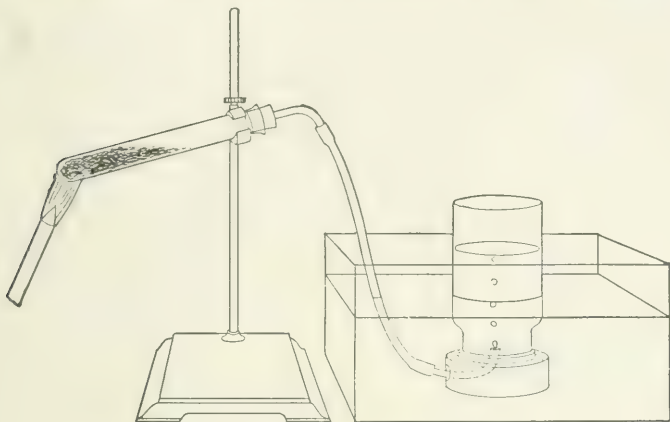

Fig. 20. Decomposing potassium chlorate.
**I. Preparation.** Mix on paper about 10 g. of potassium chlorate and about one-third the bulk of manganese dioxide. Slide the mixture into a test tube, clamp it horizontally, and tap it so as to distribute the mixture along the side of the lower half of the tube, leaving space above the mixture to the end of the tube. Insert the rubber stopper carrying the delivery tube as shown in figure 20. Fill the pneumatic trough with enough water to cover the support for the bottles. Fill 4 wide-mouth bottles with water, cover them with glass plates, and invert them in the trough.